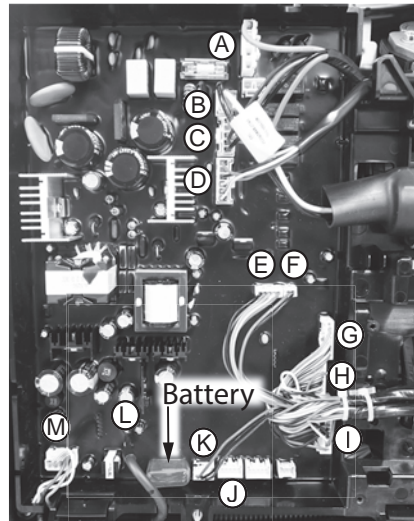

Figure 21 - Wiring harness connection points.
- 4 Locate and disconnect the wiring harness connection point J shown in Figure 21.
**14** Using Figure 21 as reference disconnect the wiring harnesses A through M from the control board.
**34** Reconnect the "keepers" on wiring harnesses B and I removed in **Steps 17 & 18**. Reference Figure 21 for placement of each wiring harness.
**35** Reconnect the user interface module wiring harness removed in **Step 4**. Reference Figure 21 for connection point M.
**39** If the new control board does not have a battery installed, remove the battery from the old control and place it in the new one. See Figure 21 for battery location.